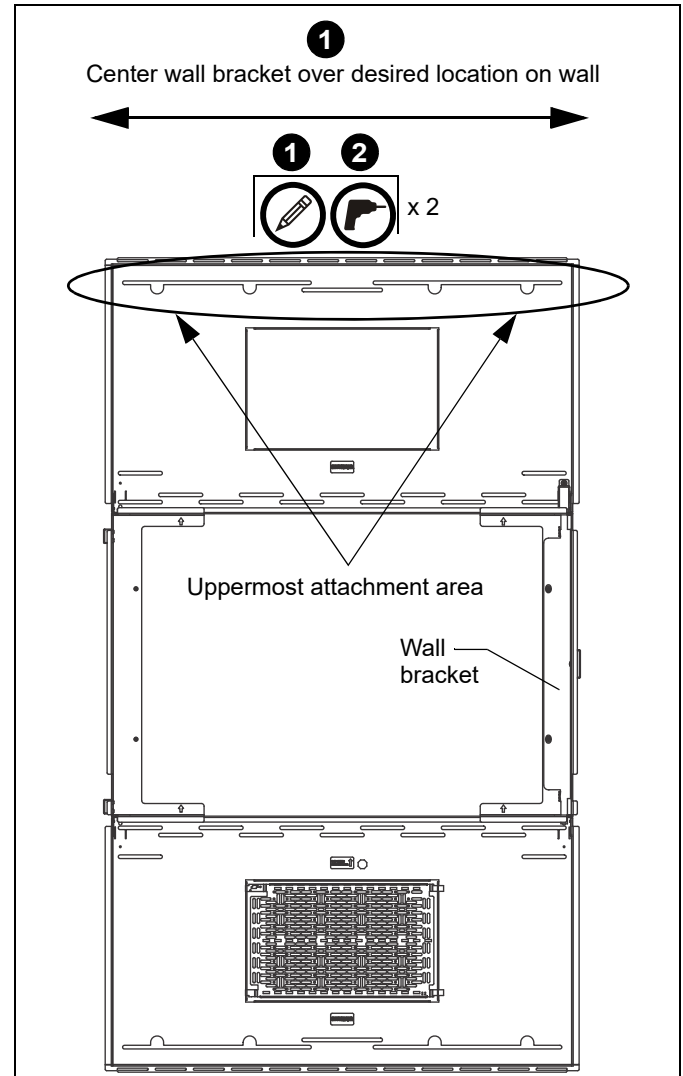

Figure 3
- Determine the horizontal center of the wall bracket, and where it should be located on the wall. (See Figure 3)
- For wood or steel stud walls, use a level and mark the two uppermost locations over studs for attachment a minimum of 16" apart and a maximum of 24" apart. (See Figure 3)
- For concrete walls, use a level and mark the two uppermost locations for attachment as far apart as possible to provide maximum stability. (See Figure 3)
- Drill one pilot hole (see Table 1 for size) at both locations marked in Step 1 (See Figure 3) and follow fastener information (appropriate for wall type) located in Table 1.